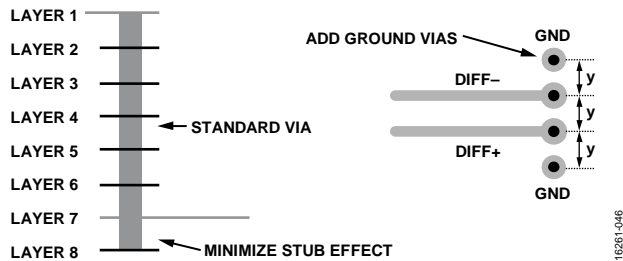

Figure 83. Minimizing Stub Effect and Adding Ground Vias for Differential Stripline Traces
- If using standard vias, use the maximum via length to minimize the stub size. For example, on an 8-layer board, use Layer 7 for the stripline pair (see Figure 83).
- For each via pair, place a pair of ground vias adjacent to them to minimize the impedance discontinuity (see Figure 83).